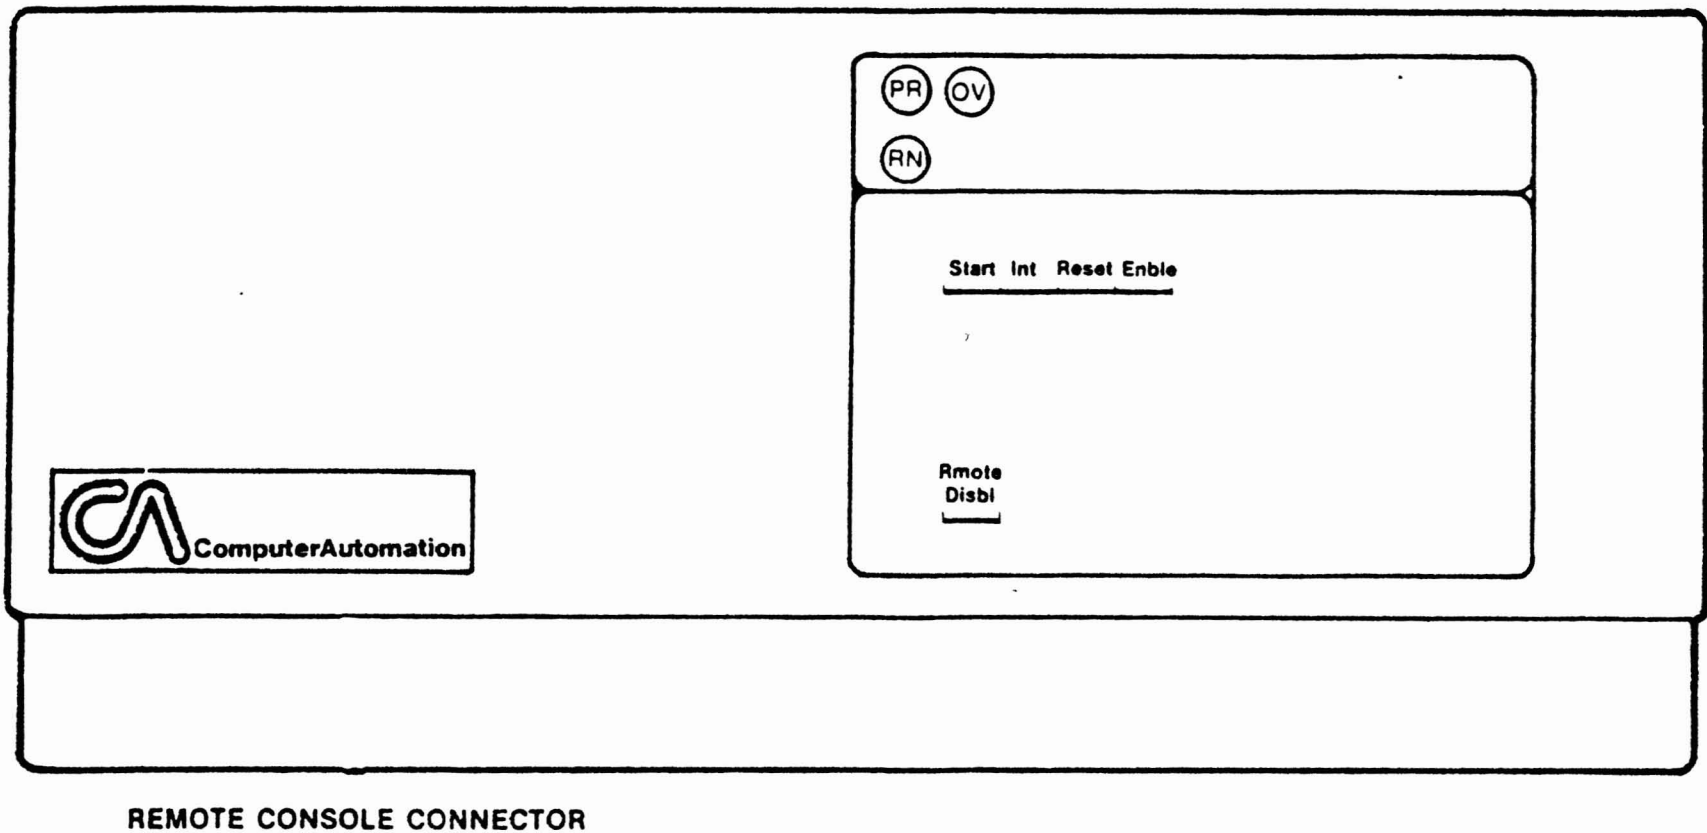

Figure 3-3. Operator's Console
- OPERATOR'S CONSOLE--The Operator's Console is a minimum-function console that is intended for "turn-key" applications. The Console switches allow an operator to initiate or stop an operation. (Figure 3-3)